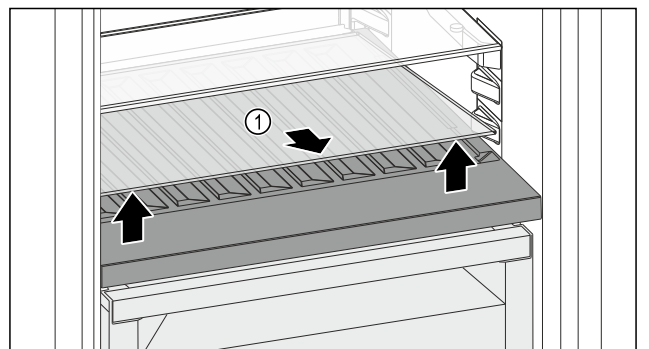

Fig. 102
- Lift the glass shelf Fig. 102 (1) at the front and remove.
- Store the glass shelf Fig. 102 (1) in a safe place outside the appliance.